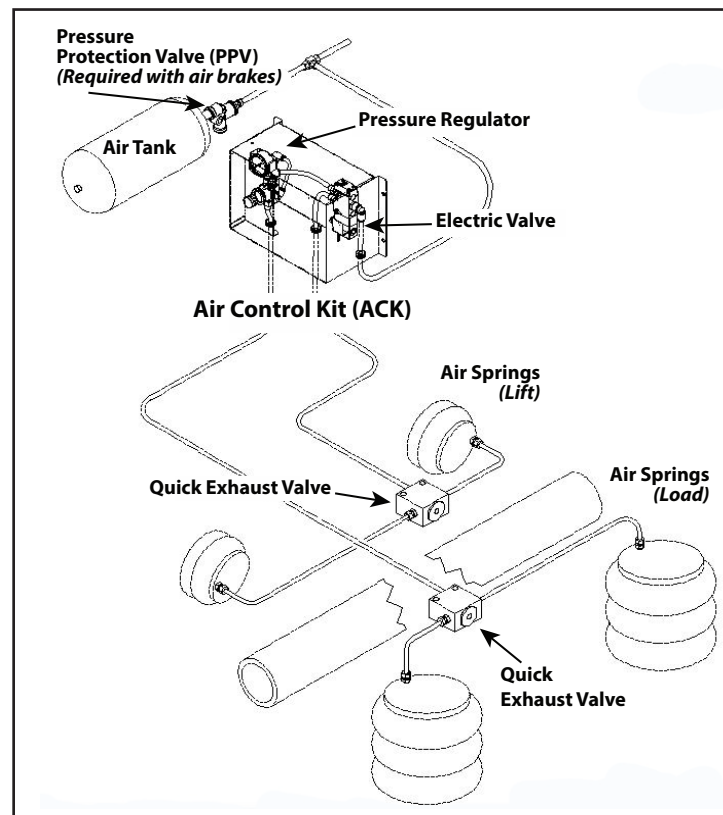

Figure 2.
Connect the load and lift air springs and an air control kit to the air system (Figure 2).
6. Assemble the pivot connection with one wear washer on each side of the bushing (Figure 2). The inner sleeve of the bushing must be flush with or extend slightly past the outside of the wear washers after assembly.